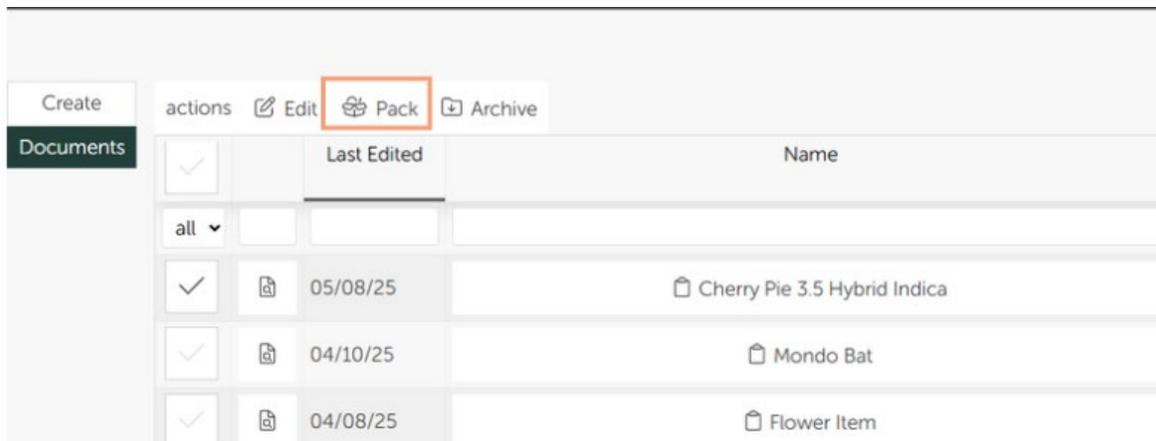

Figure 16: Catalogue Documents with Pack button
2. Select the COA and click Pack - see Figure 16.